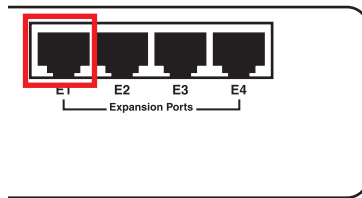

Figure 3-1. E1 port.
1. Connect the cable to your chosen port on the ServSensor. See Figure 3-1.